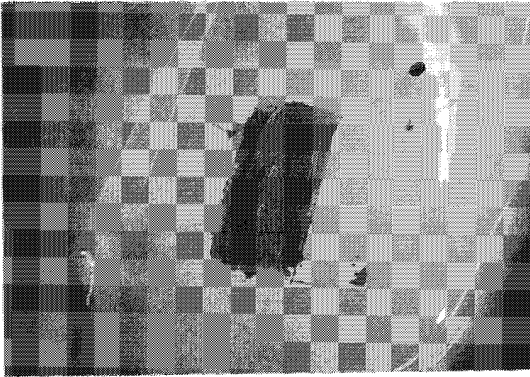
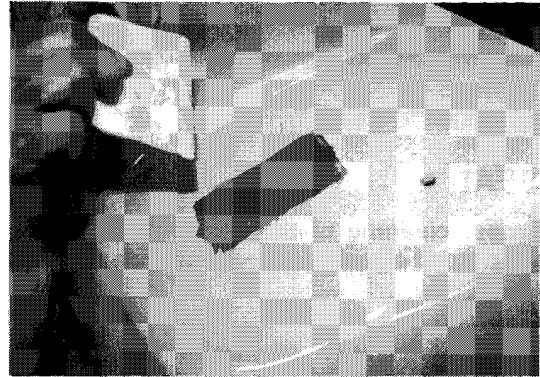

Figure 5-3
Figure 5-4
4. Using the Flexible Epoxy Kit (CLUB CAR part # 1017295), mix equal amounts of resin and hardener to completely fill in the damaged area (Figure 5-3). Spread the mixture over the damaged area using a putty knife or spreader with ample pressure to eliminate air pockets (Figure 5-4).